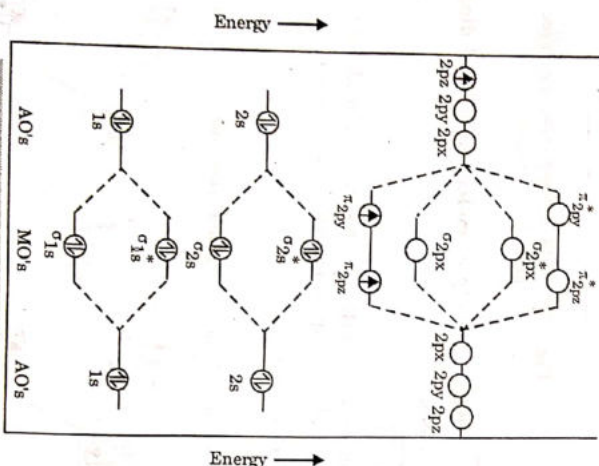

Fig. 1.5.1. Molecular orbital energy level diagram for B_2 molecule.
1. For the formation of B_2 molecule, two B atoms are required. Its electronic configuration is: $1s^2 2s^2 2p^1$. The filled molecular orbitals in B_2 molecule are shown in Fig. 1.5.1.